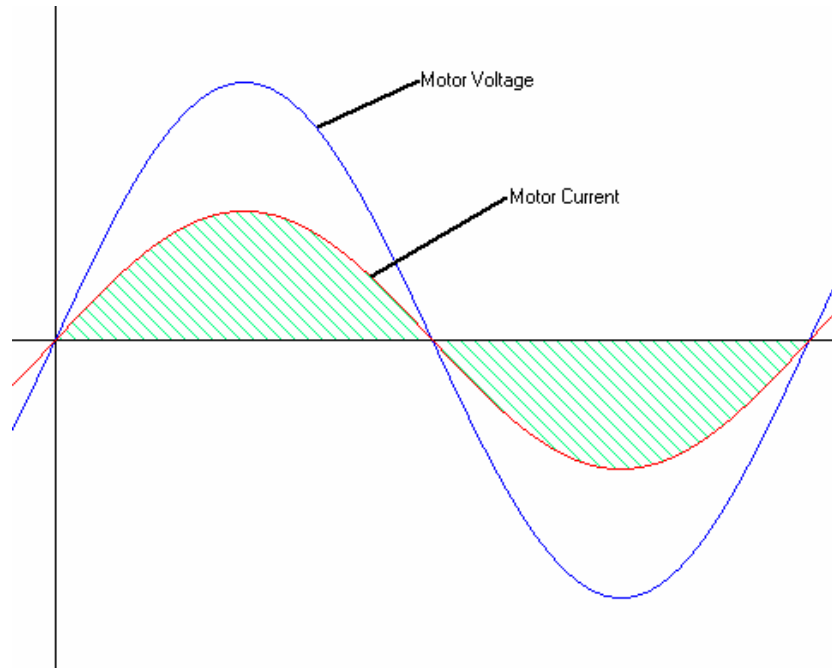
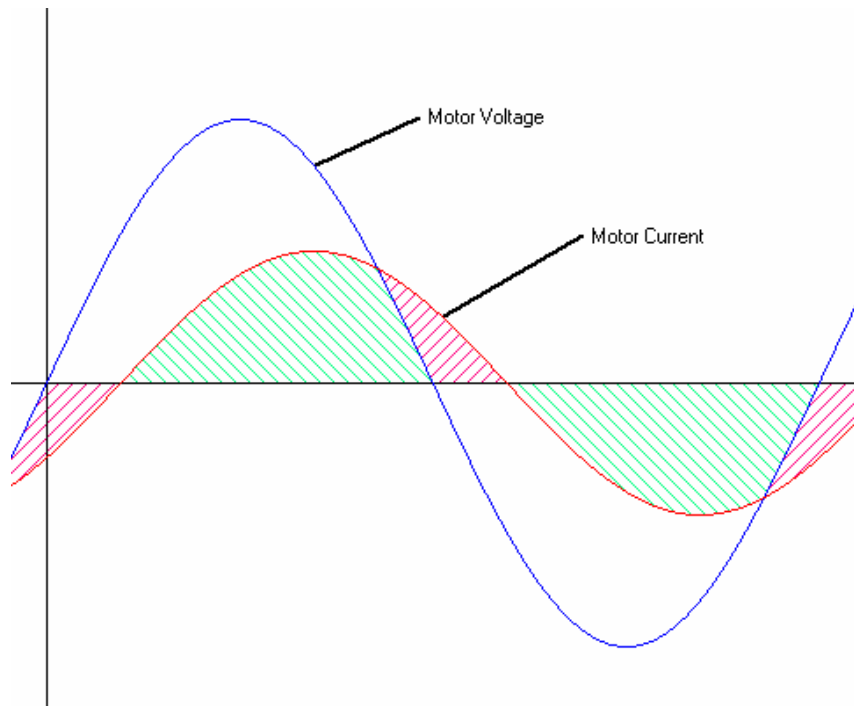

Figure 2
Figure 3
- Real power (P), measured in watts (W), which can be thought of as the green shaded area in Figure 2 and Figure 3;
- Reactive power (Q), measured in reactive volt-amps (VAr), which can be thought of as the pink shaded area in Figure 3;
- and Apparent power (S), measured in volt-amps (VA), which can be thought of as the combination of the pink and the green areas.
In the case of a sinusoidal waveform (as in Figure 2 and Figure 3), P, Q and S can be expressed as vectors that form a triangle such that:
About 30 years ago (1977), a NASA engineer by the name of Frank Nola patented a method for improving the efficiency of lightly loaded single phase induction motors by measuring and reducing the phase angle (“lag” in Figure 3 above) between the voltage and current waveforms. In the next few years, Nola patented several improvements to the technique, along with a version for improving the efficiency of lightly loaded three phase induction motors.